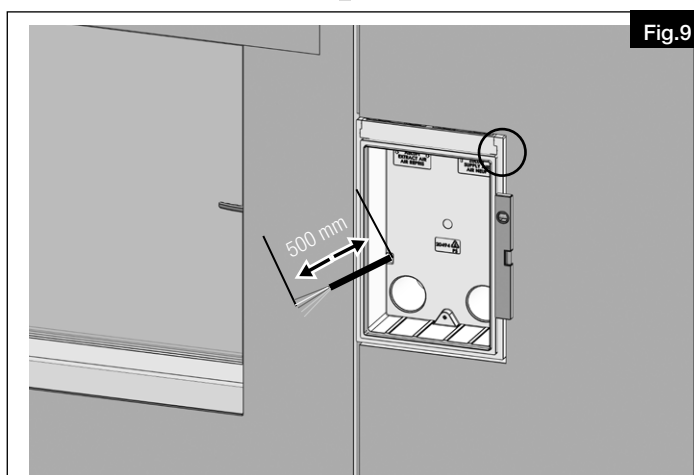
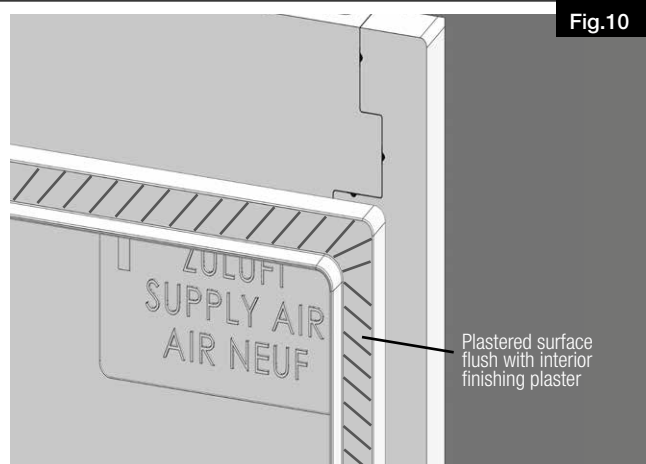

Fig.9
Fig.10
5. First, pull the cable through the wall installation element from the rear and insert the element into the wall opening (see Fig.9). Observe the installation depth (see Fig.3, dimension X). The plaster surface must be flush with the interior finishing plaster when installed (see Fig.10).
6. Align the wall installation element using a spirit level and fix it on both the interior and exterior sides (see Fig.9). **The exact cable length must be adjusted during the installation of the unit.** When fixing, ensure that the installation element is not deformed.
16. Plaster the interior wall, ensuring the interior finishing plaster is flush with the plaster surface of the wall installation element (see Fig.10).